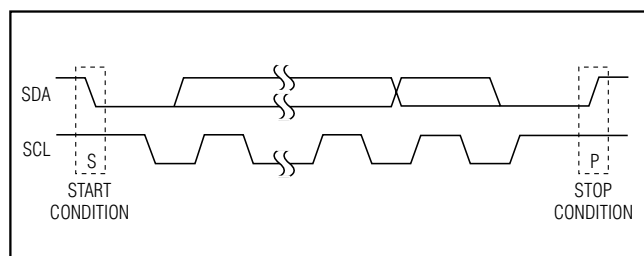

Figure 2. START and STOP Conditions
Each transmission consists of a START condition sent by a master, followed by the MAX7325's 7-bit slave addresses plus R/W bits, 1 or more data bytes, and finally a STOP condition (Figure 2).
Both SCL and SDA remain high when the interface is not busy. A master signals the beginning of a transmission with a START (S) condition by transitioning SDA from high to low while SCL is high. When the master has finished communicating with the slave, the master issues a STOP (P) condition by transitioning SDA from low to high while SCL is high. The bus is then free for another transmission (Figure 2).